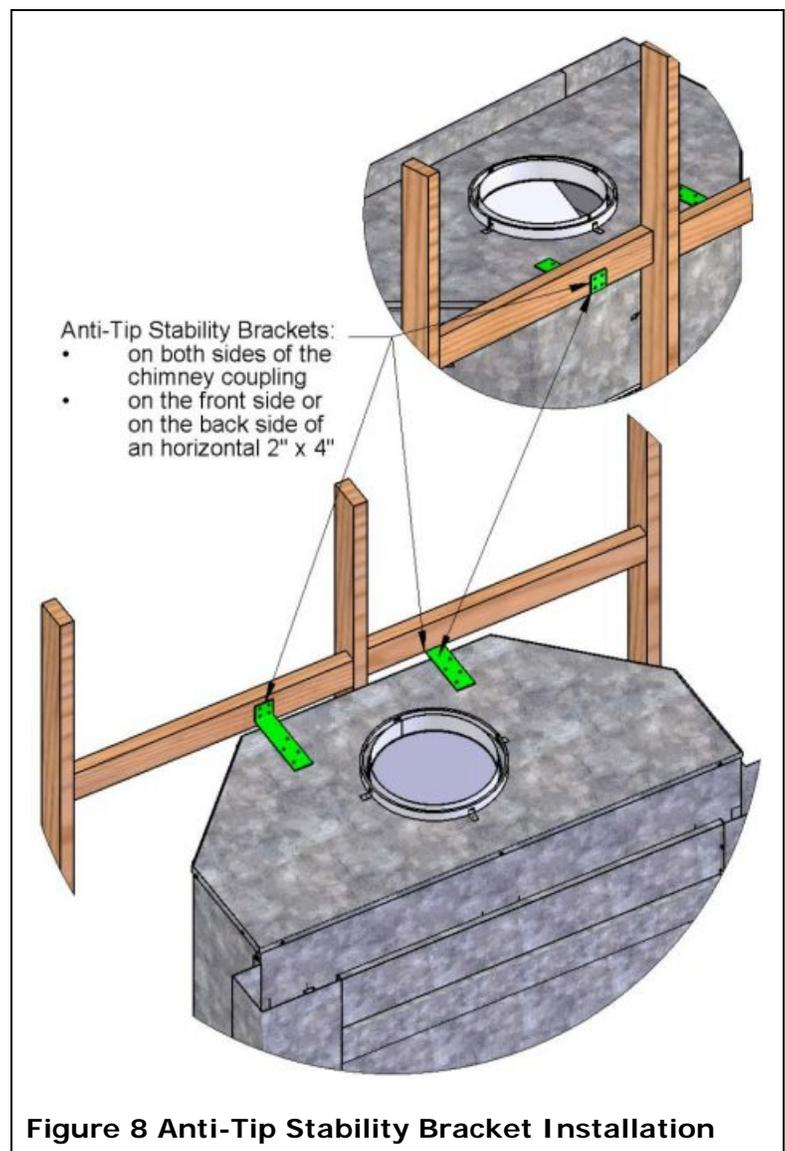

Figure 8 Anti-Tip Stability Bracket Installation
You also need to install two anti-tip stability brackets (M) at the top of the fireplace. They must be solidly screwed to the back wall and to the top of the fireplace. Depending on your specific installation, you can install the anti-tip stability brackets in two different ways. Refer to Figure 8 for examples of installation of the anti-tip stability brackets. Use eight of the large self-tapping screws provided (N) to attach both anti-tip stability brackets to the top of the fireplace casing.